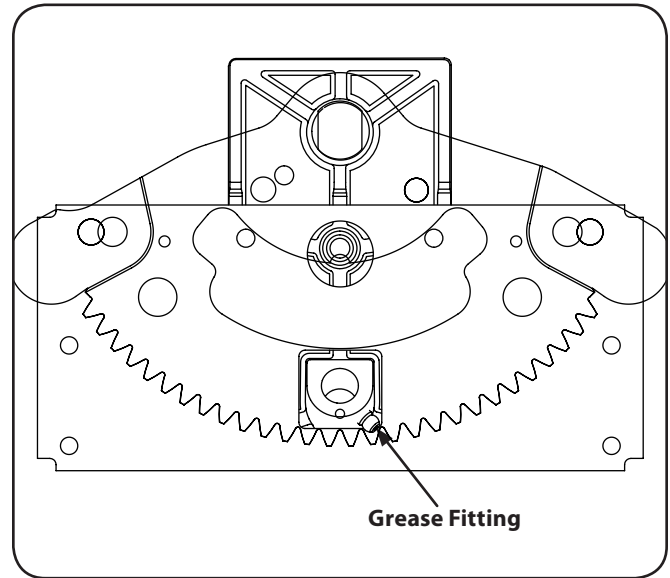

Figure 6-8
1. Working beneath the left side of the tractor frame, locate the lube fitting near the rear of the steering housing. See Fig 6-8.